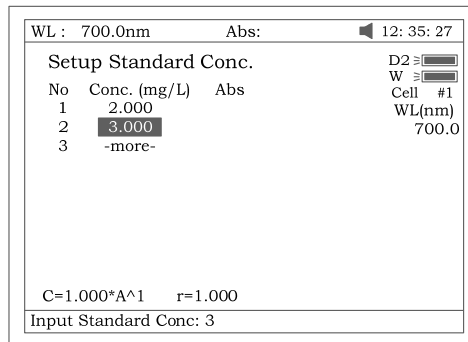

Fig 31
- Enter standard concentrations of samples by pressing the Numeric keypad followed by [ENTER]. Press [] or [] to modify the inputted data Fig31.